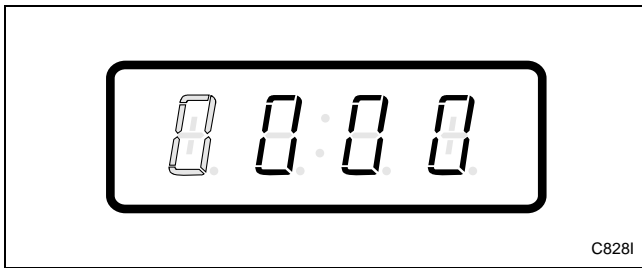

Figure 220
6. Press the START (enter) keypad to enter the fifth digit and display remaining four digits. The active digit will flash one second on and one second off. Refer to *Figure 220*.